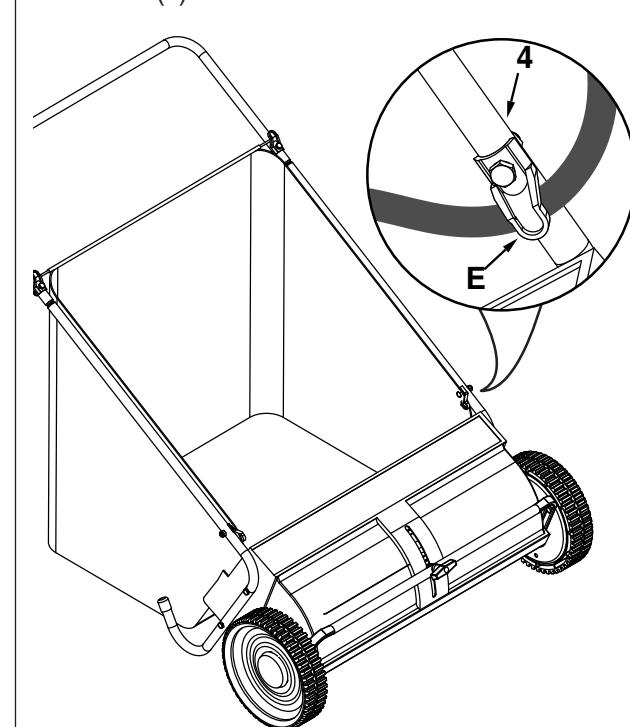

Figure 10
STEP 10: (SEE FIGURE 10)
- Hook the elastic straps on the bag flaps under the bag rod clips (E) on the lower handle tubes (4).